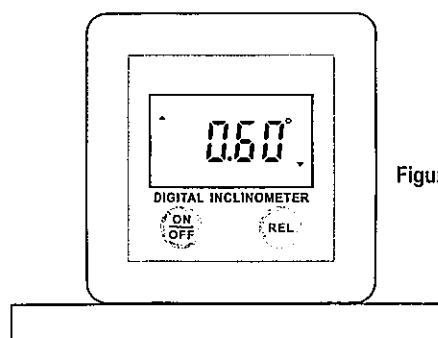
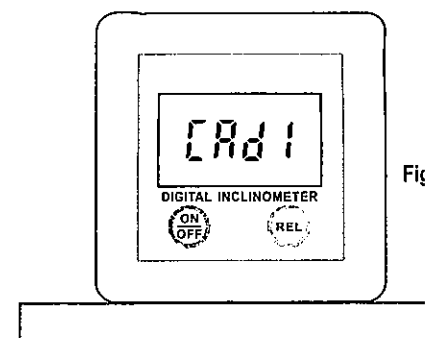

Figure 4
Figure 5
1. Press the " ON/OFF " key to turn on the instrument. Then place the instrument on a platform in a manner where the instrument's front panel faces you and the instrument's measuring surface is against the platform as indicated in Figure 4. Make sure that the instrument is in angle measurement mode, then press and hold down the " ON/OFF " and " REL " keys simultaneously for about 5 seconds until the display shows " C/ " (Figure 5). Now the instrument is in Calibration mode.